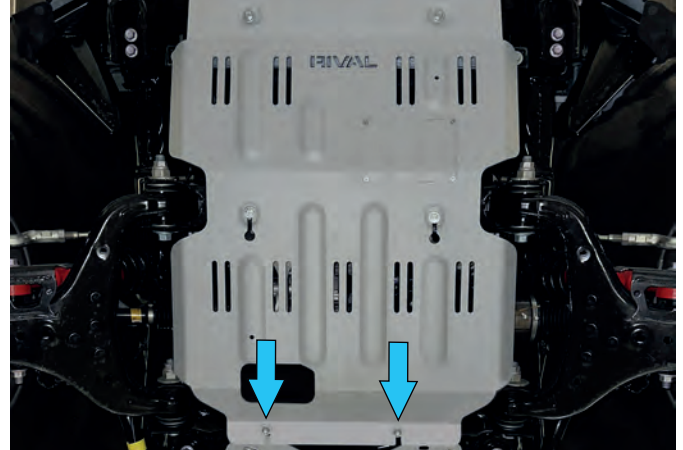

Fig. 8
8. Put the engine skid plate (item 1) on M8x25 bolts (item A) as shown in fig. 8.